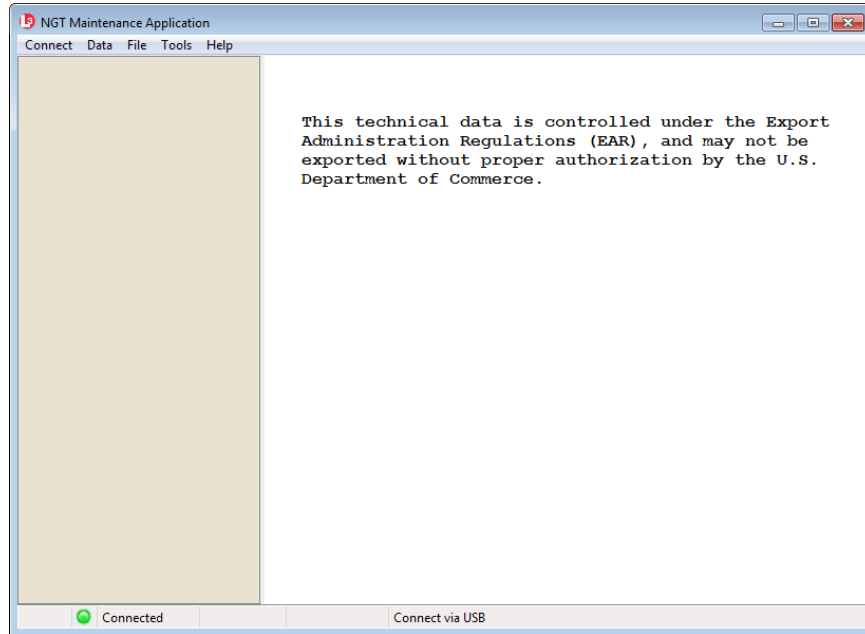

Figure 3-2: Maintenance Application Tool – Main Page
- c. From the Lynx MAT menu select Connect→NGT9000 → USB. See Figure 3-2.